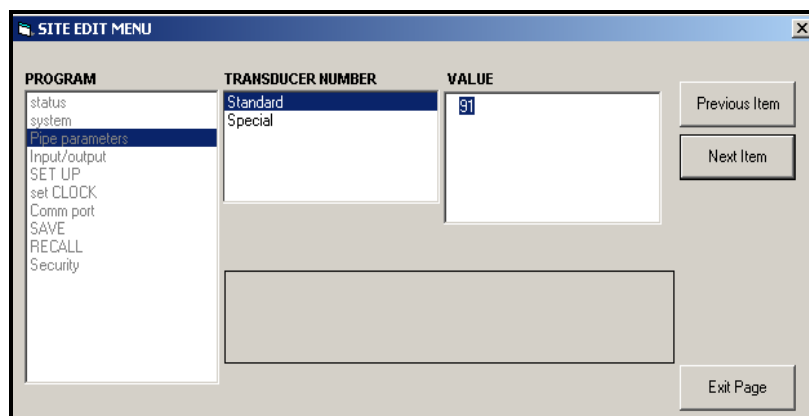

Figure 37: The Pipe Parameters Option in the Site Edit Menu
- a. Highlight and double-click on the desired option in the left pane. Figure 37 below shows the first entry (Transducer Number) in the *Pipe parameters* option. The title above the center pane lists the current entry, while the center pane displays the available selections for that entry.